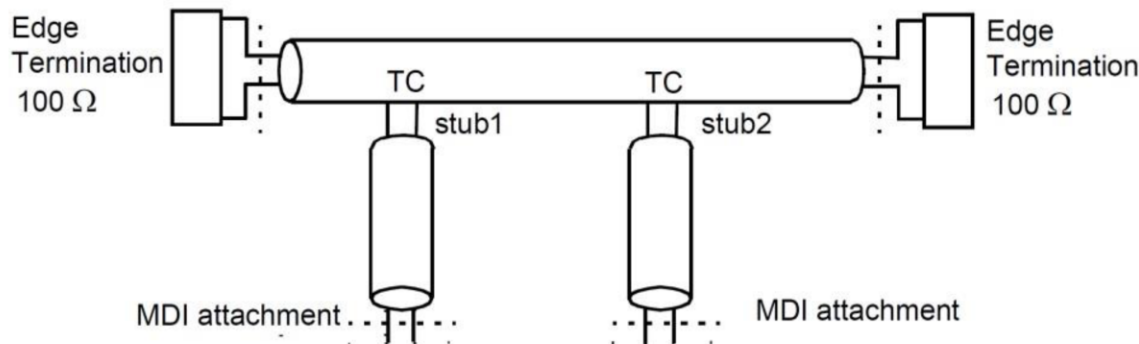

Figure 168–x Mixing segment and reference points
Figure 168–x shows an example mixing segment with reference points. The mixing segment specifications in 168.6 are referenced to these designated points and are to be met without the MDI or other loads attached. The mixing segment specifications are based on a trunk-stub configuration. Other configurations may be possible, provided they meet the electrical parameters in this 168.6. The example configuration assumes that the trunk comprises TBD m of 1.02mm (18 AWG) 100 Ω cabling and the stubs are 100 Ω balanced pairs of conductors up to 30 cm long. The trunk is terminated at each end into 100 Ω , at a point designated the 'edge termination'. One end of the stub is designated the trunk connection (TC) and the other designated the 'MDI attachment point'.